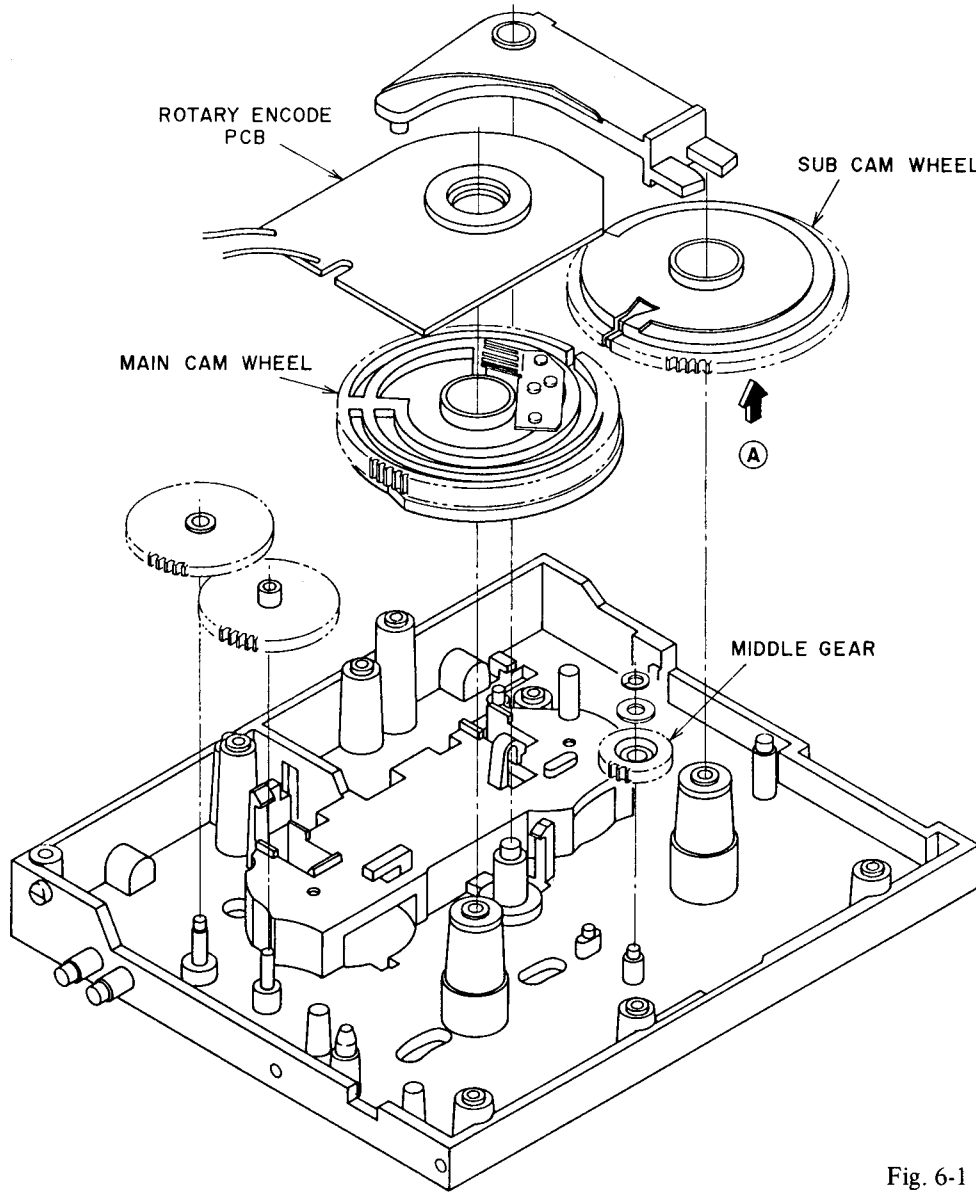
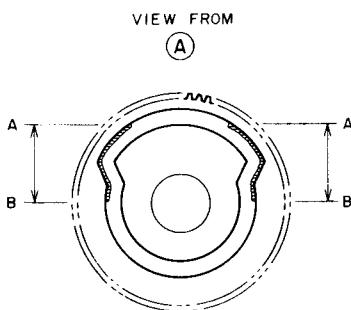
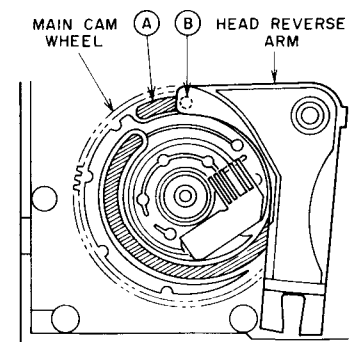

Fig. 6-1
Fig. 6-2
Fig. 6-4
- 1) Lock at SUB CAM WHEEL from direction **A** (Fig. 6-1) and apply grease to areas A to B (the side of the groove shaded with oblique lines) as in Fig. 6-2.
- 4) Insert the head Reverse arm pin **B** (see Fig. 6-1) into groove **A** in MAIN CAM WHEEL as in Fig. 6-4.